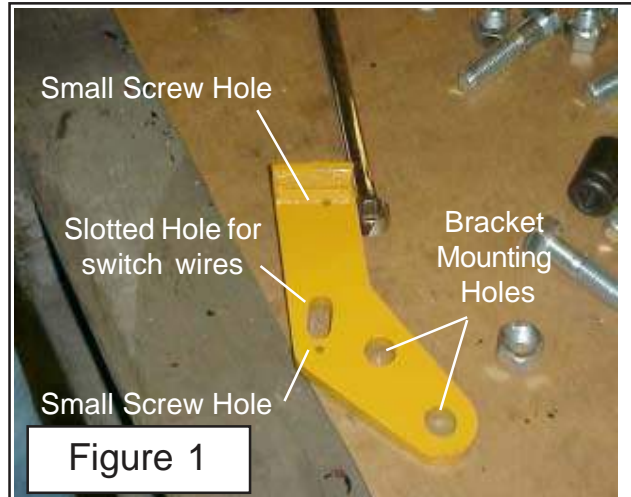
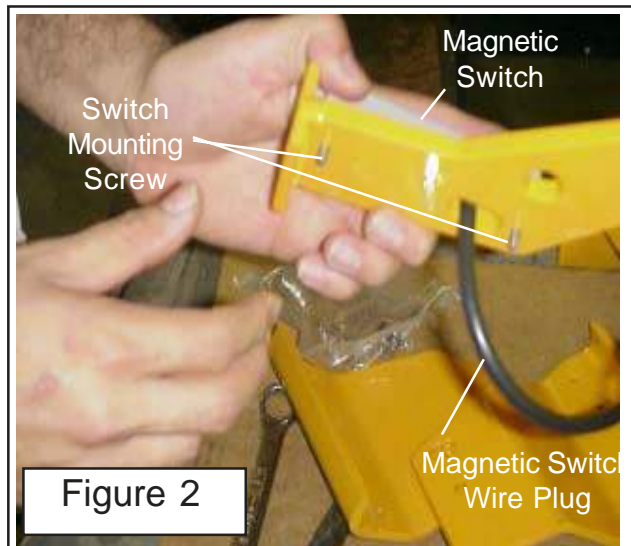

Figure 1
Figure 2
- 1. Assemble Brackets & Magnetic Switches.** Locate the Magnetic switch mounting bracket, dual wings there will be two of these (See Figure 1). If Dual wings the two brackets will have the switches mounted on the opposite side (See Figure 2). Once these have the switches bolted on lay the brackets aside for now. (See Figure 20)